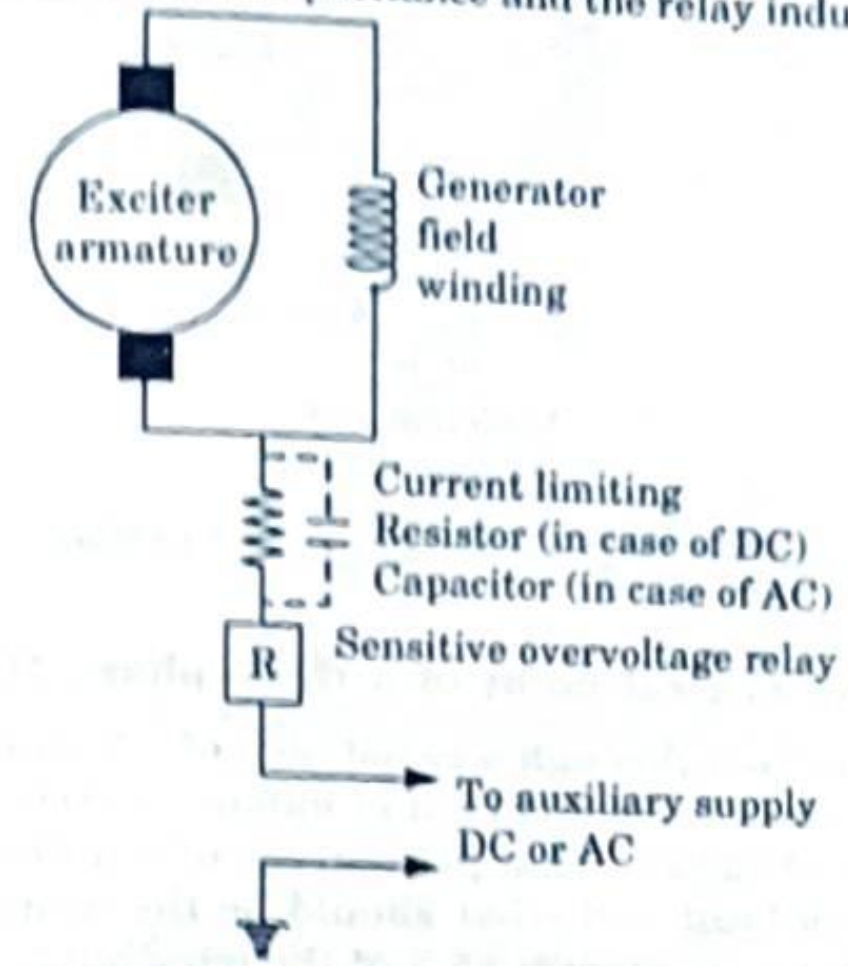

Fig. 3.6.1. Rotor earth fault protection.
1. Rotor earth fault protection includes DC injection method and AC injection method. The arrangement is shown in Fig. 3.6.1.